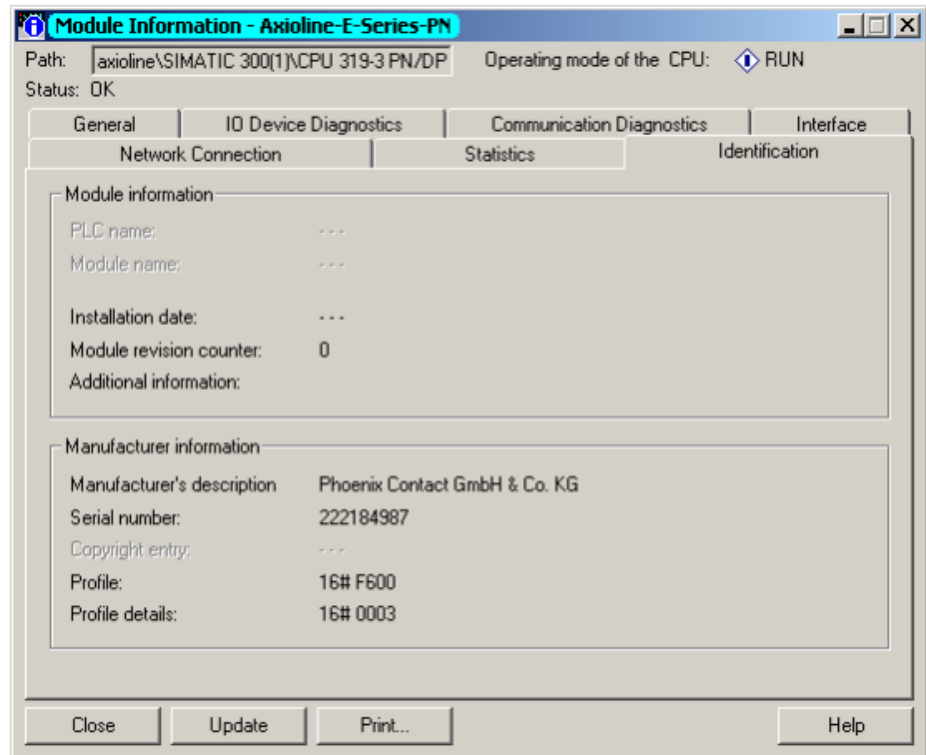

Figure 2-12 Dialog box: Module status; Identification tab
- In the “Identification” tab, the module revision counter is listed in the “Module information” area and the vendor ID (manufacturer's description), serial number, profile, and profile details are listed in the “Manufacturer information” area, see Figure 2-12.